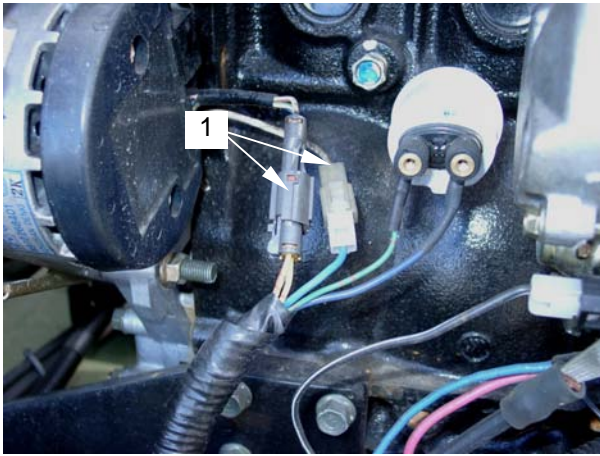

Figure 24. Generator Wiring
- g. Tag and disconnect generator wiring (**figure 24, item 1**).
- q. Connect generator wiring and remove tags (**figure 24, item 1**).